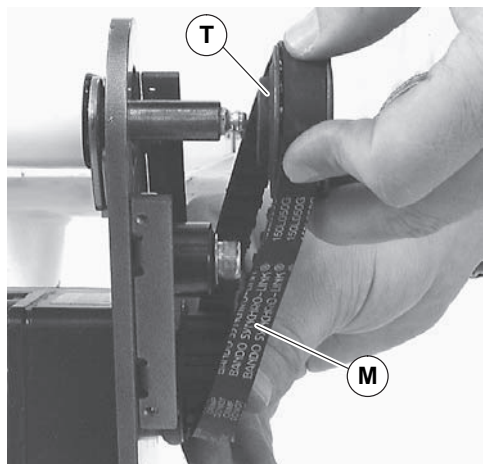

Figure 20
If timing belt does not slide over pulley flange, loosen driven pulley set screws (Figure 20, item T) and remove pulley with belt (M). For re-installation, see steps 6 through 9 on page 9.